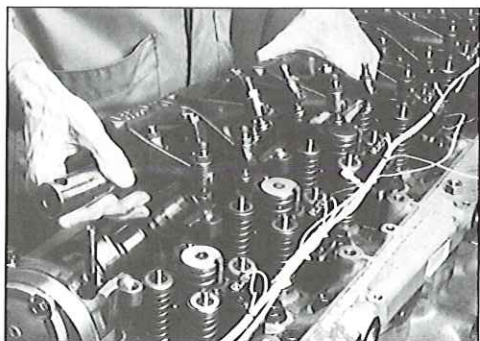

FIG. 60
4. Lift off the rocker arm assembly (see Fig. 60).